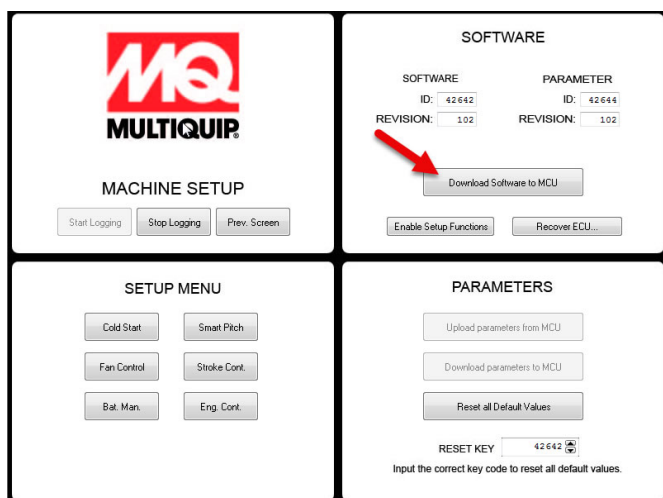

Figure 21. Download Software to MCU Screen
5. Click "Download Software to MCU" button (Figure 21).